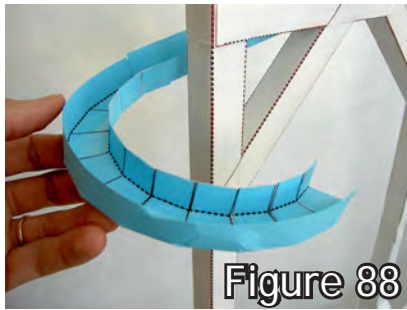

Figure 88
1. Determine where you want the cantilever to support the track. (fig. 88)